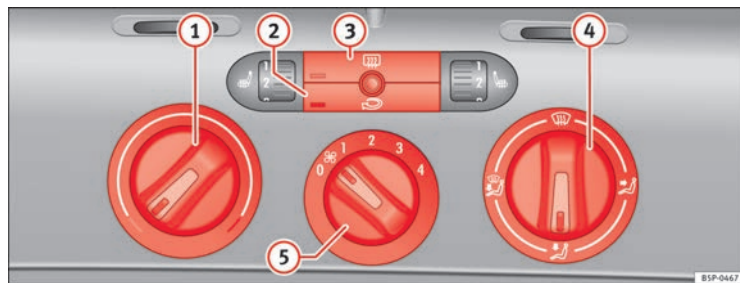

Fig. 126 Heating controls on the dash panel
- Using the controls ⇒ fig. 126 ① and ④ and the control ⑤ you can set the temperature, air distribution and the blower speed.
- To switch a function on or off, press the appropriate button ② or ③. When the function is activated, the display window in the lower left of the button is lit.